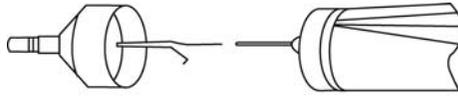

Figure 5: Probe wire removal.
1. Carefully remove this wire from the metal tube (Figure 5). This will pull any cerumen out of the metal tube.